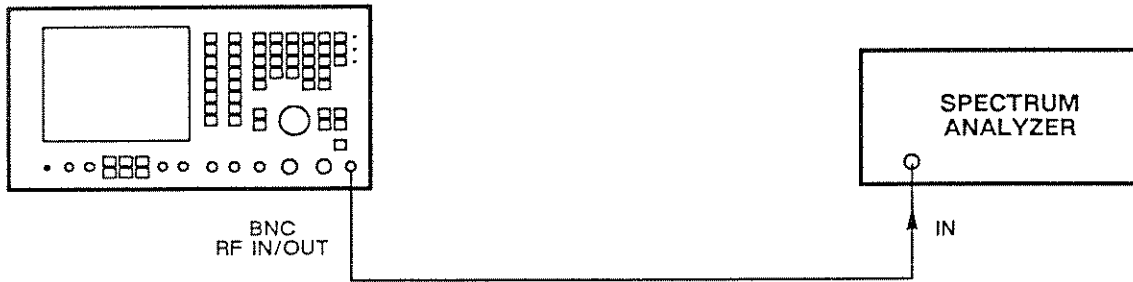

Fig. 6-28 Test equipment connections for RF generator harmonics, sub-harmonics and spurious signals
- (1) Connect the spectrum analyzer to the RF IN/OUT BNC socket. See Fig. 6-28.
- (2) On the 2955B, set the MODE to RECEIVER TEST, GEN FREQ to 1.5 MHz, LEVEL to 0 dBm, MOD to AM, MOD to OFF and RF IN/OUT socket to BNC.
- (3) Adjust the spectrum analyzer to reference the 1.5 MHz fundamental on the top graticule line.
- (4) On the spectrum analyzer, check that the reading is <-20 dBc.
- (5) Repeat (4) at frequencies between 0.4 and 1.5 MHz. On the spectrum analyzer, check that the reading is <-25 dBc.
- (6) Repeat (4) at frequencies between 1.5 and 250 MHz. On the spectrum analyzer, check that the reading is <-25 dBc.
- (7) Repeat (4) at frequencies between 250 and 1000 MHz. On the spectrum analyzer, check that the reading is <-20 dBc.
- (2) On the 2955B, set the MODE to RECEIVER TEST, GEN FREQ to 530 MHz, LEVEL to 0 dBm, MOD to OFF and RF IN/OUT socket to BNC.
- (3) Adjust the spectrum analyzer to reference the 530 MHz fundamental on the top graticule line.
- (4) On the spectrum analyzer, check that the reading is <-25 dBc.
- (5) Repeat (4) for frequencies between 530 and 1000 MHz.
- (2) On the 2955B, set the MODE to RECEIVER TEST, GEN FREQ to 88 MHz, LEVEL to 0 dBm, MOD to OFF and RF IN/OUT socket to BNC.
- (3) Adjust the spectrum analyzer to reference the 88 MHz fundamental on the top graticule line.
- (4) On the spectrum analyzer, check that the reading for spurious signals below 110 MHz is <-45 dBc and the reading for spurious signals above 110 MHz is <-35 dBc.
- (5) Repeat (4) at carrier frequencies between 0.4 and 88 MHz.
- (6) Repeat (4) at carrier frequencies between 88 and 1000 MHz. Check that the reading for all spurious signals is <-60 dBc.